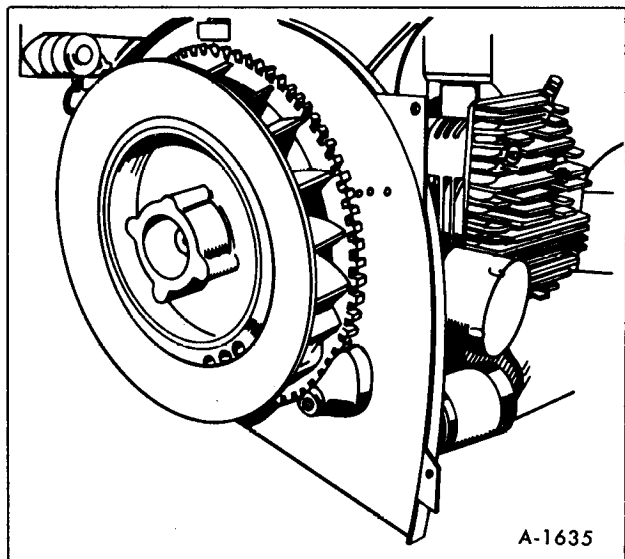

Figure 46—Blower Scroll Removed
1. Remove blower scroll from front of engine by removing four screws (figure 46).